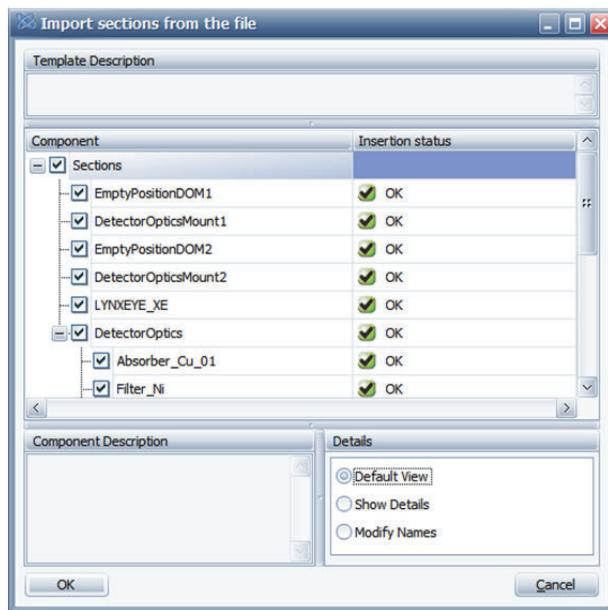

Figure 6.2: Template insert in CONFIGURATION plugin.
2. Insert a LYNXEYE XE template of your choice, depending on your x-ray wavelength and application type ('High –energy- Resolution or High Count Rate'), e.g. 'LYNXEYE XE\_Diff-Align\_Cu-Cr-Co-Fe-Tube.bfscn' (Figure 6.2).